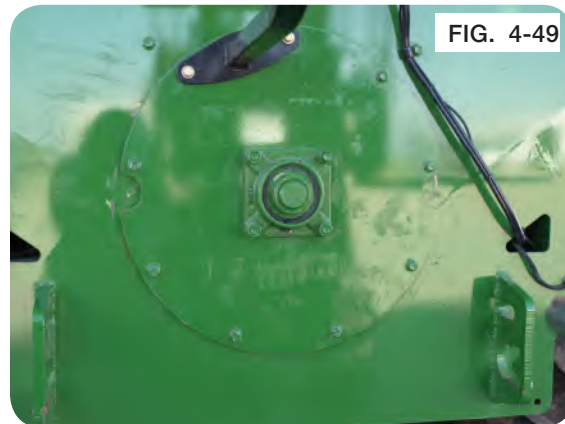

FIG. 4-49
35. Insert hardware for rear auger cover, and rear ladder, if equipped. (Figs. 4-49 & 4-50)
37. Torque all hardware to specification. See “Torque Chart” in this section. (Figs. 4-49 & 4-50)